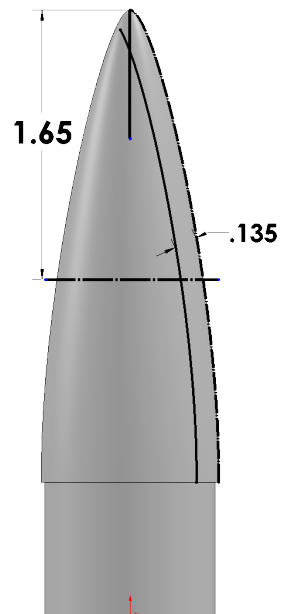

Fig. 17
Step 11. Click **Smart Dimension**  (S) on the Sketch toolbar.
Step 12. Add **1.65** dimension, **Fig. 17**.
Step 13. Click **Trim Entities**  (S) on the Sketch toolbar.